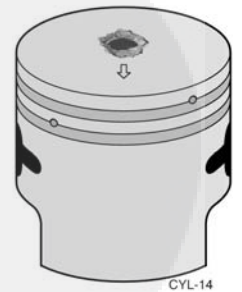

Figure 2.24 Damage caused by detonation.
- Outdated or low-octane fuel** can burn unevenly, producing excessive combustion pressures that tend to have a hammering effect on pistons and related components (Figure 2.24). Shindaiwa engines require a fuel with an octane rating of at least 87 or above. Unless fuel has been pretreated with an approved fuel stabilizer such as Sta-Bil™, Shindaiwa advises against using any motor fuel stored over 30-days.